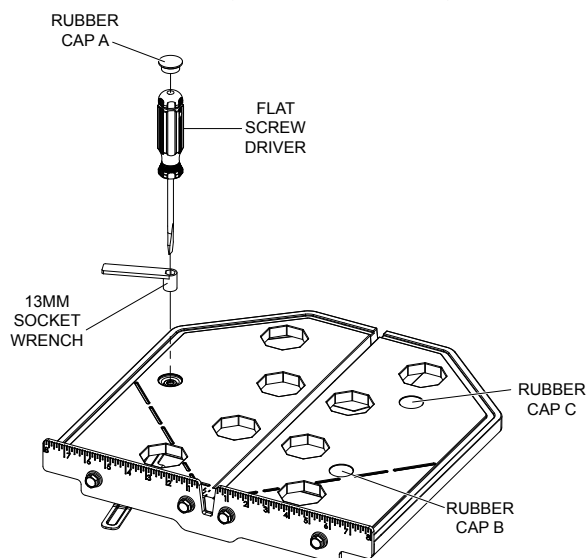
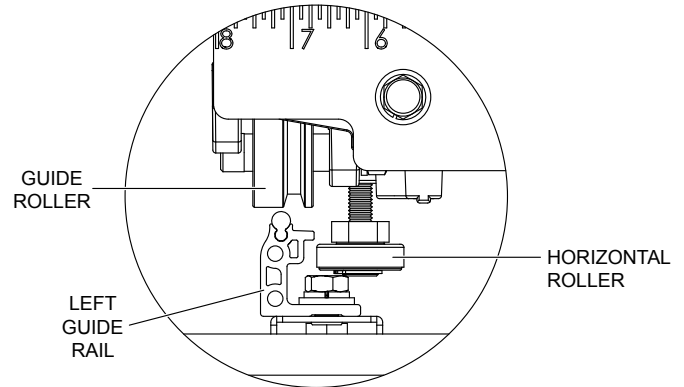

Figure 26. Lowering Roller
Figure 27. Remove Table
2. Remove rubber cap A on the left side of the table. Loosen the exposed lock nut using a 13mm socket wrench. Use a flat screwdriver to turn the shaft of the roller clockwise to lower it by approximately 3/8 in. (9.5 mm). See Figure 26. Evenly lift up the table to disengage the guide rollers from the left guide rail. Once the guide rollers are clear, shift the table to the right to clear the left horizontal roller of the rail. Remove the table from the guide rails. See Figure 27.
1. Remove rubber caps B and C on the right side of the table. Loosen the exposed lock nuts using a socket wrench. Next, use a flat screwdriver to turn the shaft of the rollers clockwise. See Figure 26. This will lower the horizontal rollers to allow room for adjusting the flat rollers.